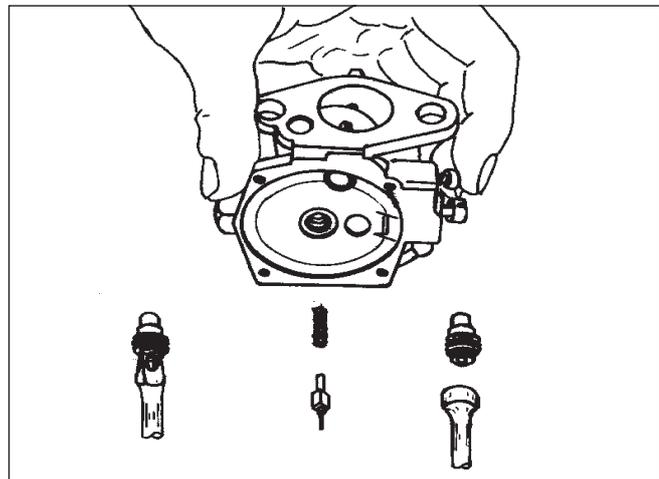

Fig. 6
- Remove main jet (nos. **14, 15, 16, 17**) and idle jet (nos. **10, 11, 12, 13**). Check these for serviceability, replace worn or damaged jets. On current carburettors, a fixed main jet is now fitted (8). This is fitted without seals etc, whereas the idle jet is adjustable and consists of a needle (**10**), spring (**11**), O-ring (**12**) and washer (**13**).
- Remove the valve assembly (**18, 19, 20, 21**) with a hexagonal 5/32 spanner (or with a slotted head screwdriver for valves of the old type), taking care to extract washer, spring etc. (Fig 6).